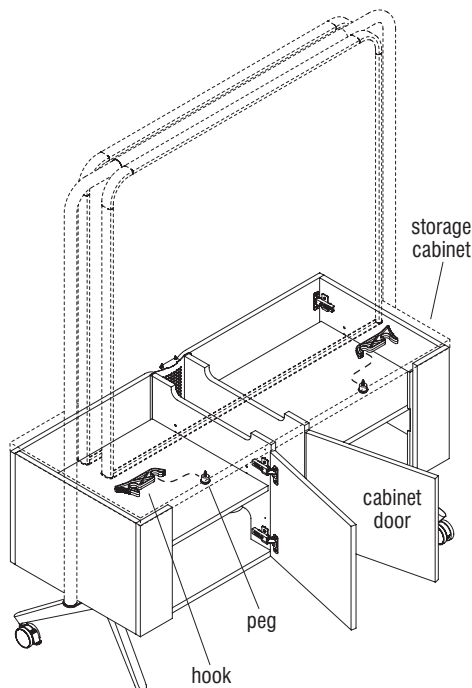

Figure 7
1. Position and snap the two ganging hooks onto their respective ganging pegs (Figure 7).